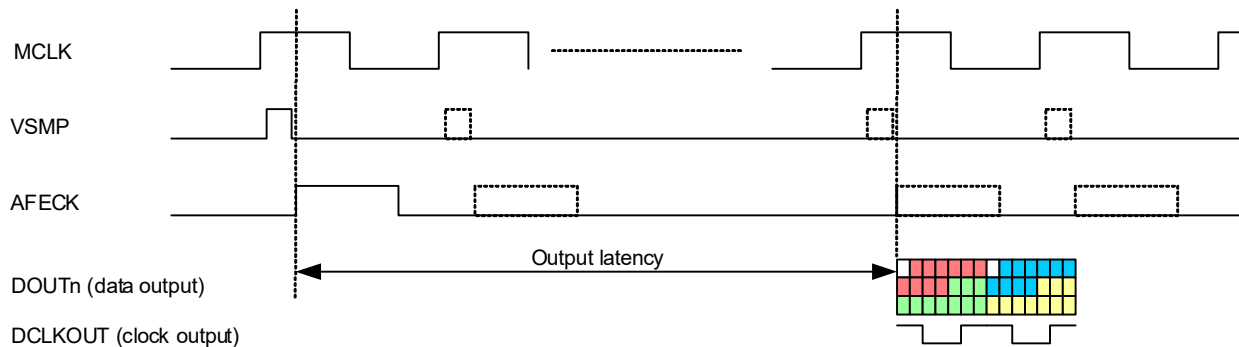

Figure 4-43. Data Output Timing (TG Mode, LVDS Output)
In TG Mode, the data output is supported in LVDS and CMOS (TG) data formats, described in Section 4.5.2 and Section 4.5.3 respectively. The latency of the output is dependent on the selected data format. The latency is defined from the rising edge of AFECK (i.e., the first MCLK rising edge after the VSMP falling edge), as shown in Fig. 4-43.
- The data output latency is illustrated in Fig. 4-43.